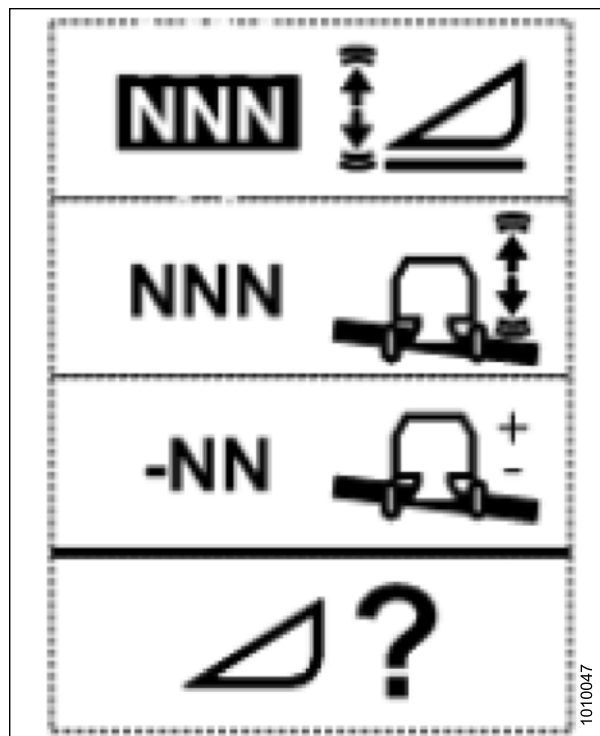

Figure 6.39: Height Sensitivity Change Page
1. Use HEADER SETTINGS key (A) to display the HEADER SENSITIVITY CHANGE page as shown in Figure 6.39, page 175.
2. Use the UP key (B) or DOWN key (C) to adjust the highlighted item. The height sensitivity setting range is 0 (least sensitive) to 250 (most sensitive) in increments of 10.